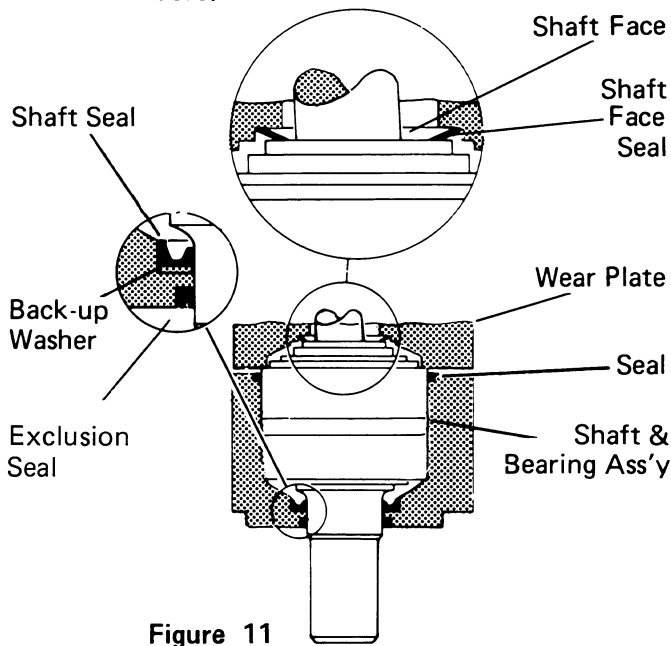

Figure 11
**21** Use a press to install exclusion seal in outer bore of bearing housing. Lip of seal must face outward. See Fig. 11. If a press is **not** available use a plastic or rubber hammer, being careful not to damage or cock seal in the bore.
**27** Install the shaft face seal in the wear plate as shown in Fig. 11. Do not distort seal.
**28** Install the wear plate, see Fig. 11.